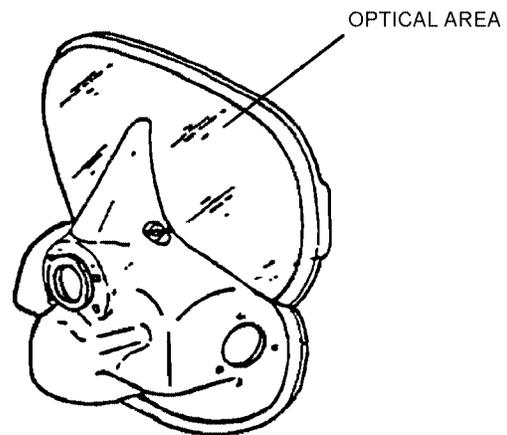

Figure 4-7. Faceplate
**4-9. Faceplate.** A molded, one-piece, polycarbonate faceplate (figure 4-7) is sealed into the front of the hood. The upper part, or optical area, is transparent. The lower part (painted black) is shaped to fit the wearer's lower face. Attached to or mounted on the faceplate is a nose occluder, orinasal mask, toggle harness, mask inlet adapter, drink facility, and a microphone assembly. A strip of foam rubber is bonded over the sealing strip (on the inside) for comfort when the hood is worn.